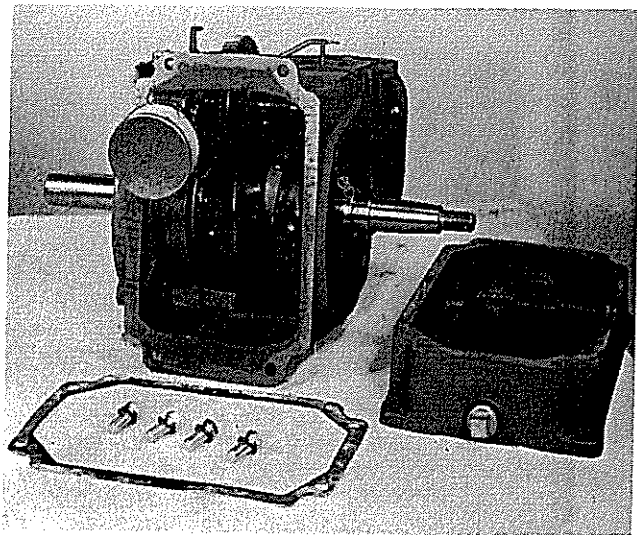

Figure 19
- a. Assemble oil base to block with four screws (Figure 19).